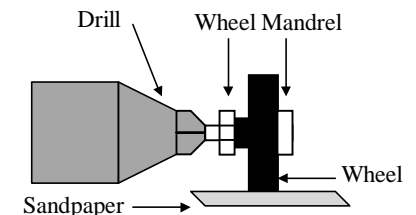

FIGURE 6
3. Place the wheel into a ‘wheel mandrel’ (a special tool designed to hold the wheel in the drill chuck) with hub facing outward (see Figure 6).